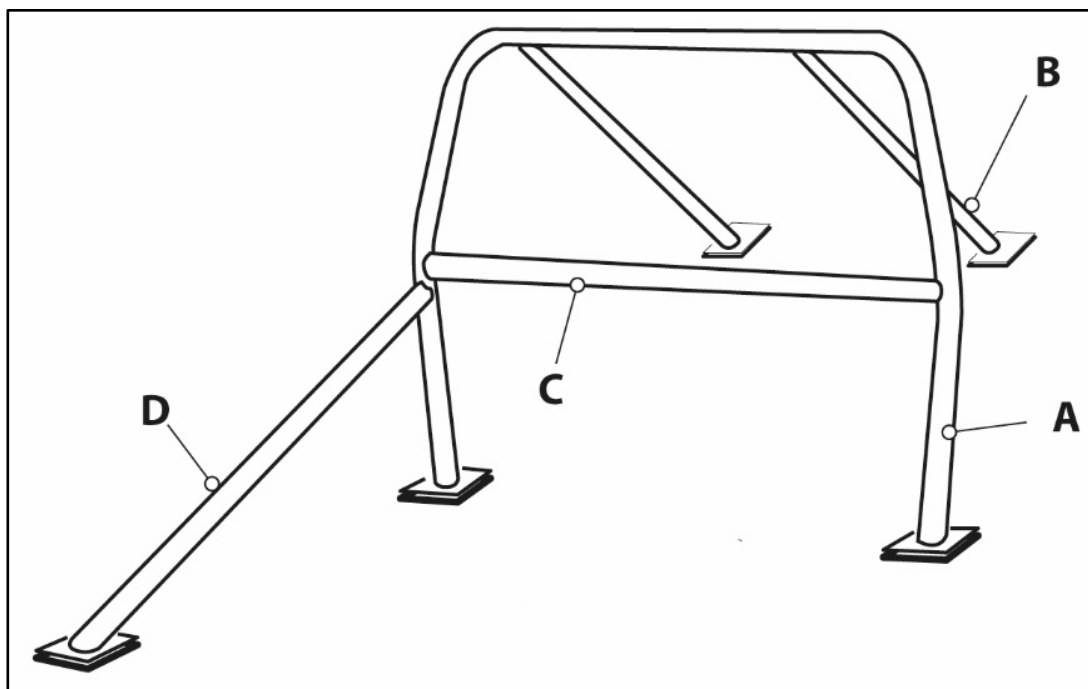

Figure 1: Single Roll Over Hoop.
- 7.1 A Single Roll Over Hoop (Figure 1) is the minimum rollage specification that is required in the following vehicles.
- 7.2 A Single Rollover Hoop must have the following components, in the positions illustrated in Figure 1, as a minimum.